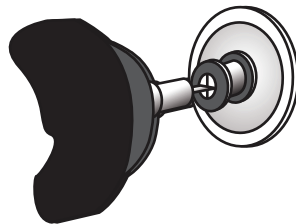

Fig. 4
Step 4: Installing wall posts (Fig. 4)